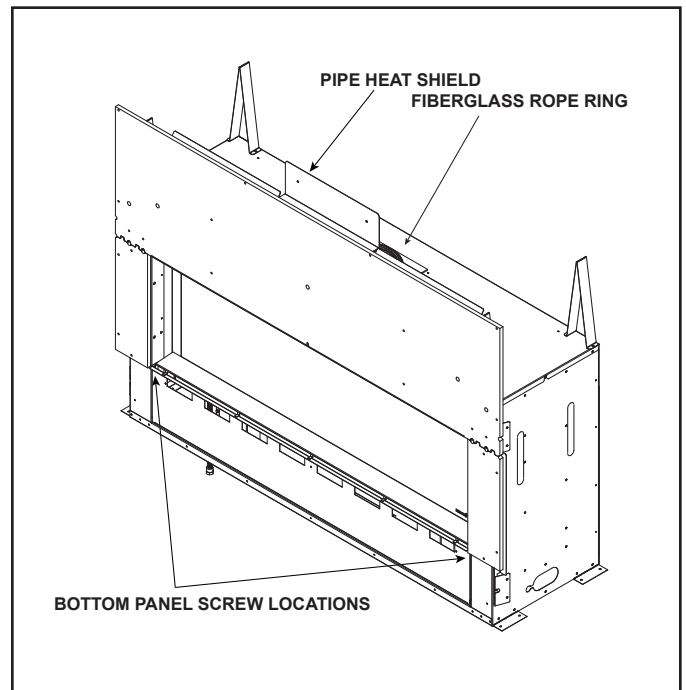

Figure 6.1 Location of Fiberglass Rope Ring
5. Remove bottom metal panel by removing two screws. Screw locations are shown in Figure 6.1. After removing two screws, gently lift the panel off the appliance avoiding contact with the non-combustible board if possible.